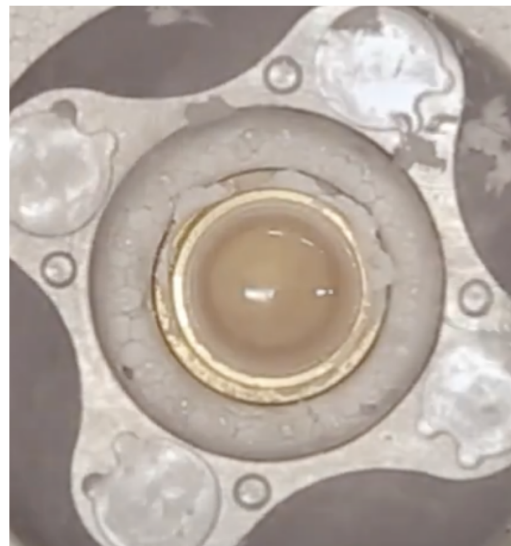

Figure 4. Slurry of Ethane, perfect for vitrification.
- 4.2.5. When ethane has formed a slurry (see fig. 4), remove the spider with pliers.